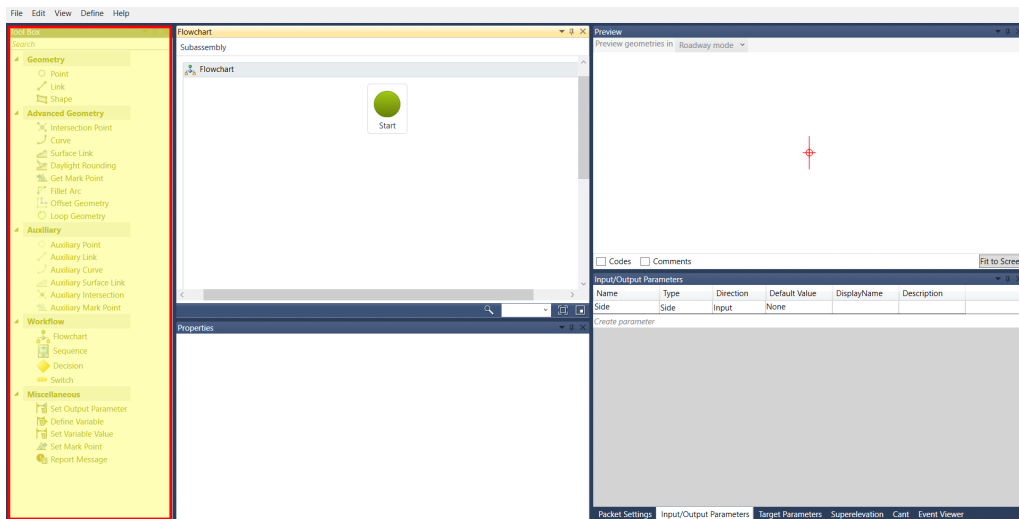

Figure 9.2 – Tool Box area
- **Tool Box:** This area acts as a repository for the elements essential for constructing the subassembly. It is organized into five sections: **Geometry**, **Advanced Geometry**, **Auxiliary**, **Workflow**, and **Miscellaneous**. To incorporate any of these elements into the subassembly, a simple drag-and-drop action from **Tool Box** to the **Flowchart** panel will suffice (refer to *Figure 9.2*).